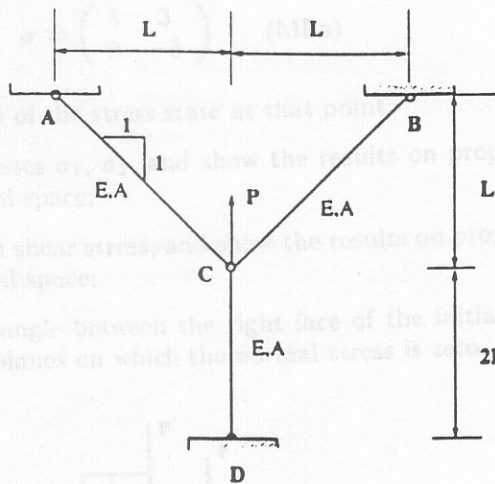

Figure 1: Schematic illustration of problem 1
A pin-jointed 3-bar structure is shown in the Figure 1. There is an external force, P , acting on the point C. (1) find internal axial forces for bar AC, BC, and CD; (2) find the vertical displacement as well as horizontal displacement at nodal point C.